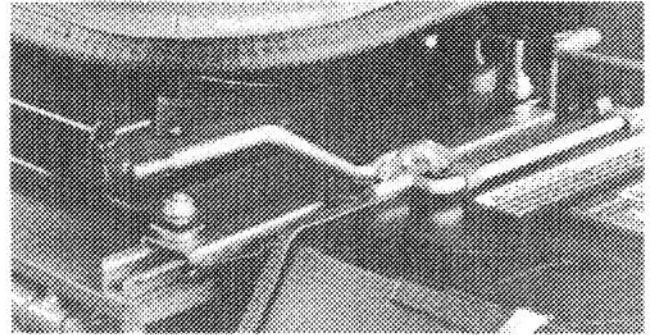

Figure 31
**Seat Adjusting Lever (Fig. 31)**—To adjust standard seat, push lever backward and slide seat to the desired position. Release lever to lock seat in place. The suspension seat may be adjusted forward or rearward by pulling out the lever at the left side of the seat, sliding the seat to the desired position, and releasing the lever. The weight adjustment knob may be adjusted for any operator's comfort.